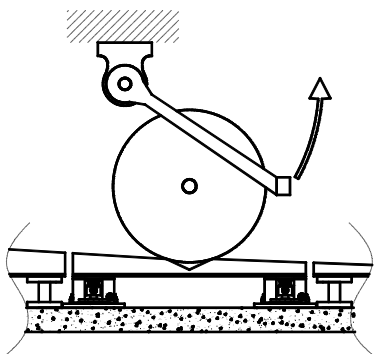

Figure 6-14: Coil Scale, External Stop
- **Coil Scale, External Stop:** With this type of scale, the coil rolls down an incline onto the scale, is stopped by an externally mounted stop, and settles back into a "V" notch in the deck for weighing. After weighing, the stop is raised and the coil is ejected from the notch so that it can roll off the scale. Generally, settling time is not important. Instead of using stabilizers, it is better to let the scale float freely to absorb shocks and to restore itself after any horizontal impact (see Figure 6-14).